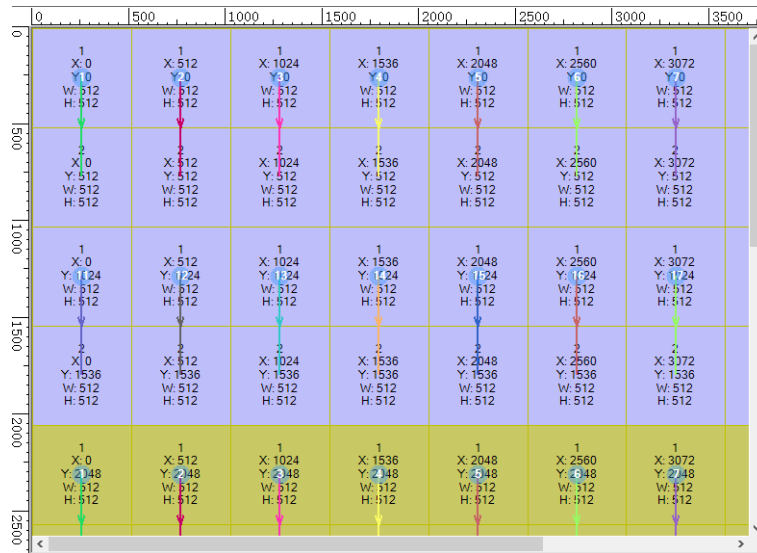

Fig 6.4.2.1 Mapping diagram
Step 1: Select sender's port according to actual cabinets, select , set the position, count, size, and selected style of the receiver cards that are connected to corresponding Ethernet ports to draw mapping diagram (See Figure 6.4.2.1 below).